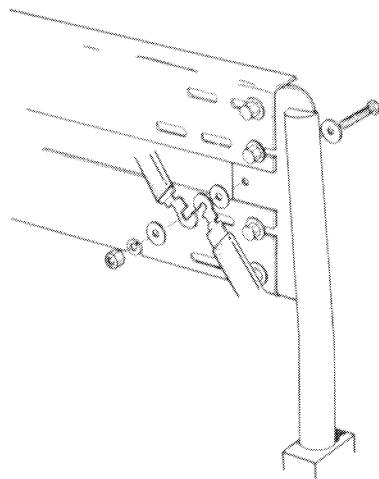

Fig. 25 Equipment rack bonding point: $\frac{1}{2}$ & $\frac{3}{4}$ ton GS
a. GS vehicles only: Fit the M6 x 25 bolt, nut, spring washer and three large diameter washers to the righthand support equipment rack at the hole between the two angles perforated equipment rack. The bolt, nut and washers are stowed in a linen bag attached to cable assembly, power, electrical (5995-99-637-9887). Fit a large diameter washer onto the bolt, pass the bolt through the support, equipment rack from the front, fit on two more large diameter washers, the spring washer and the nut, but do not tighten. See fig. 25.